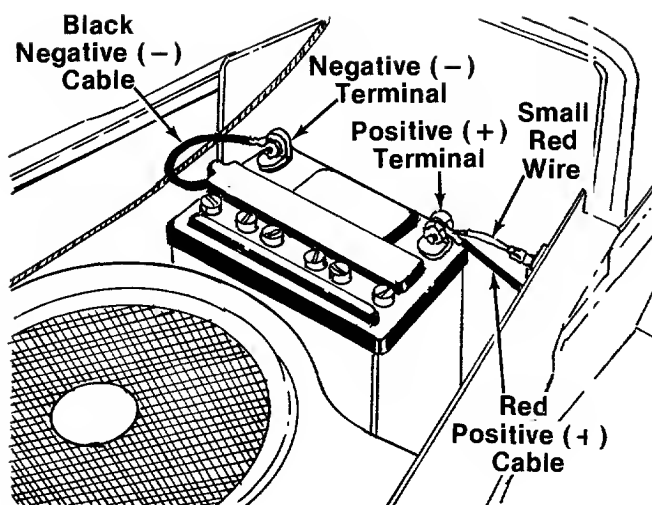

FIGURE 1.
2. Attach the positive cable (heavy red wire) and the small red wire (from the circuit breaker) to the positive battery terminal (+) with a 1/4-20 x 3/4" long bolt, lock washer and hex nut provided in the battery pack. See figure 1.